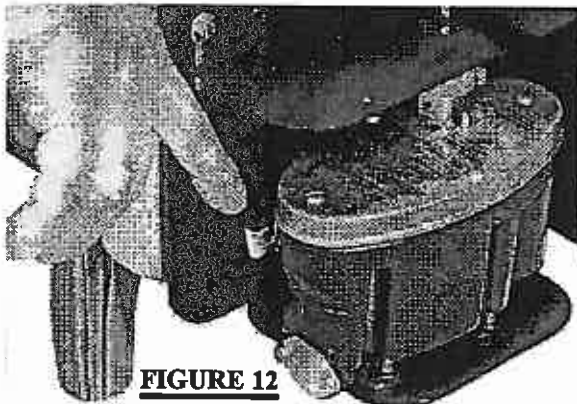

FIGURE 12
4. Set the control knob to '0'. FIGURE 11. Depress safety lever to allow oil flow into the regulator. FIGURE 12.